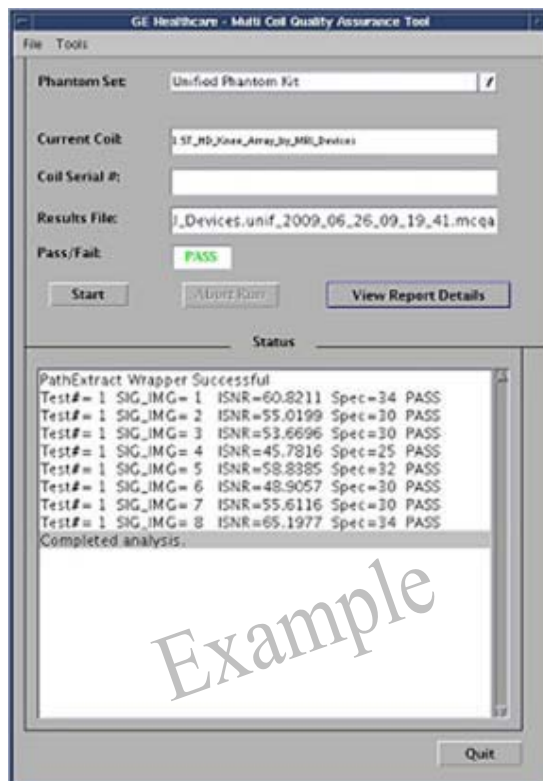

Figure 24
9. When the test is complete, test results display on the screen (Figure 24). The PASS/FAIL status shows PASS if all coil elements are functioning properly. If any coil elements display FAIL, call the GE Service Representative for coil repair.